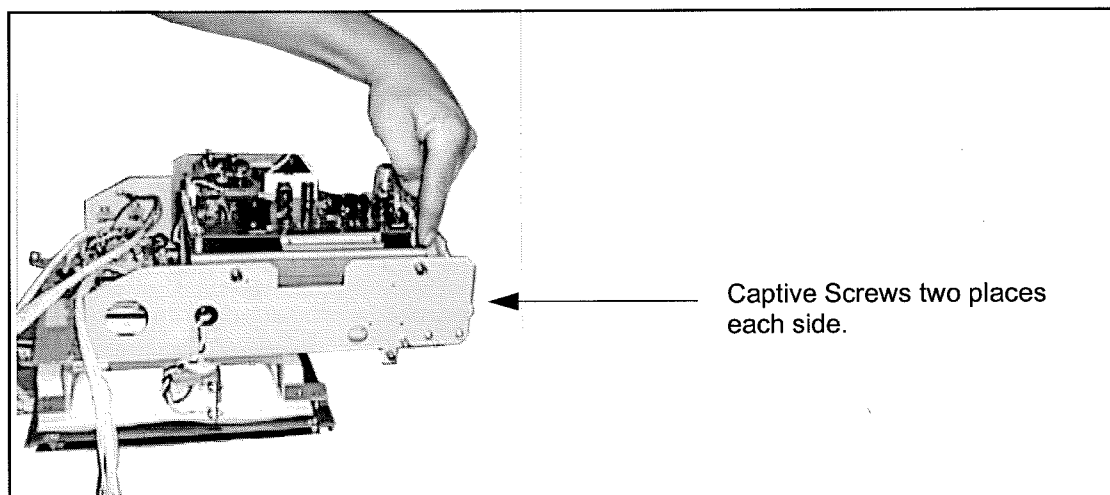

Figure 2-10 Captive Screws for Securing Power Supply
4. Secure with four existing captive screws. See Figure 2-10.